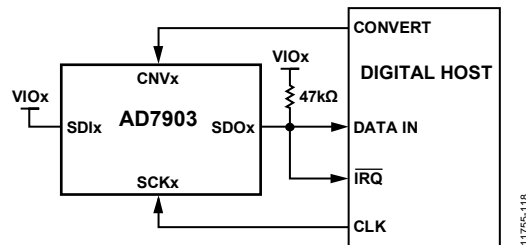
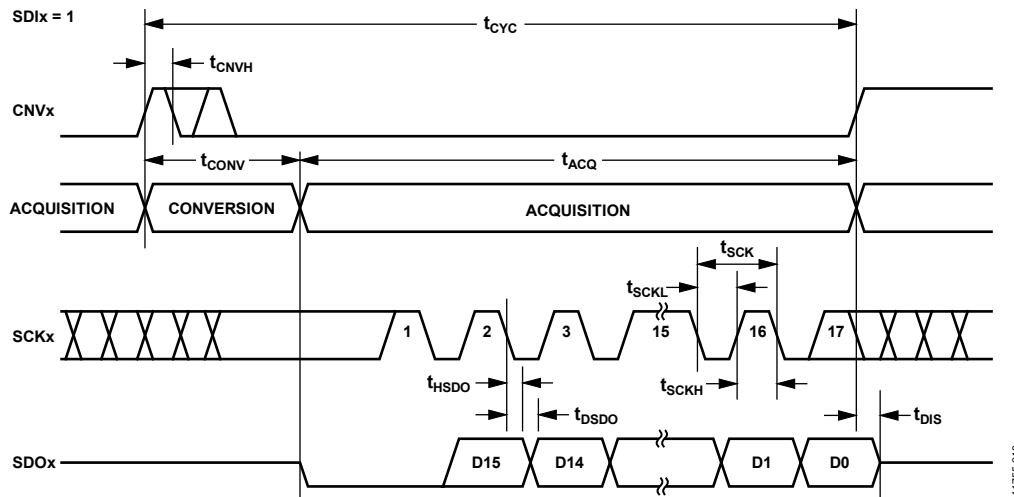
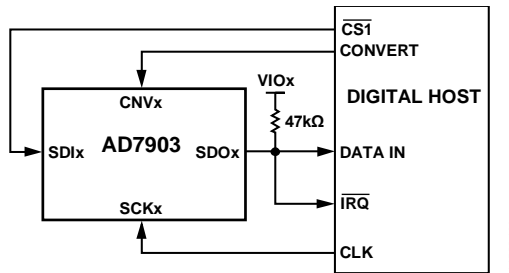
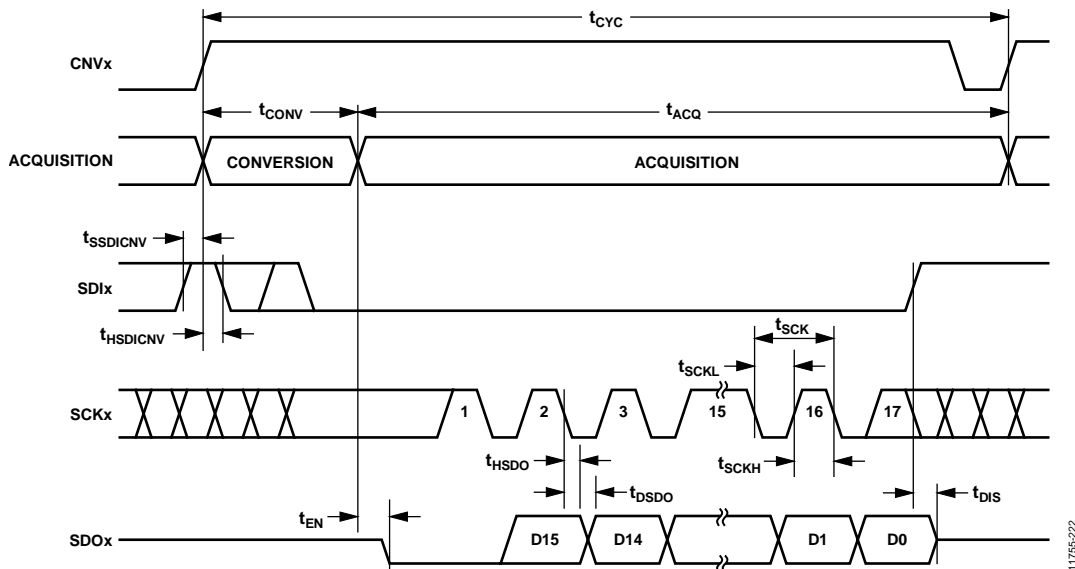

Figure 41.  $\overline{CS}$  Mode, 3-Wire Interface with Busy Indicator Connection Diagram ( $SDIx$  High)
Figure 42.  $\overline{CS}$  Mode, 3-Wire Interface with Busy Indicator Serial Interface Timing ( $SDIx$  High)
Figure 45.  $\overline{CS}$  Mode, 4-Wire Interface with Busy Indicator Connection Diagram
Figure 46.  $\overline{CS}$  Mode, 4-Wire Interface with Busy Indicator Serial Interface Timing
- In  $\overline{CS}$  mode if CNVx or SDIx is low when the ADC conversion ends (see Figure 42 and Figure 46).
The connection diagram is shown in Figure 41, and the corresponding timing is shown in Figure 42.
The connection diagram is shown in Figure 45, and the corresponding timing is given in Figure 46.